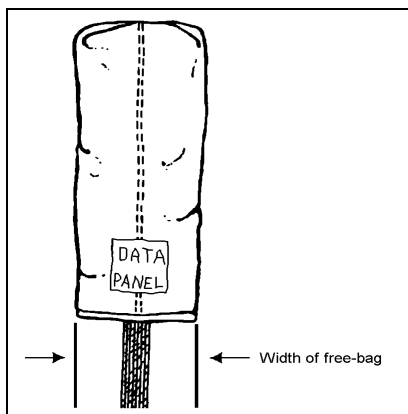

Figure 16.
Step 11.) Kneel on the trailing edge of the center cell of the canopy and center the middle seam of the center cell in the middle of the canopy bundle. "Cocoon" fold the bundle by spreading the center cell of the reserve canopy to the approximate width of the reserve free-bag and tuck the outer edges of the material under the bundle. (See Figure 16.) Prepare the free-bag in accordance with the manufacture's instructions supplied with harness/container system.